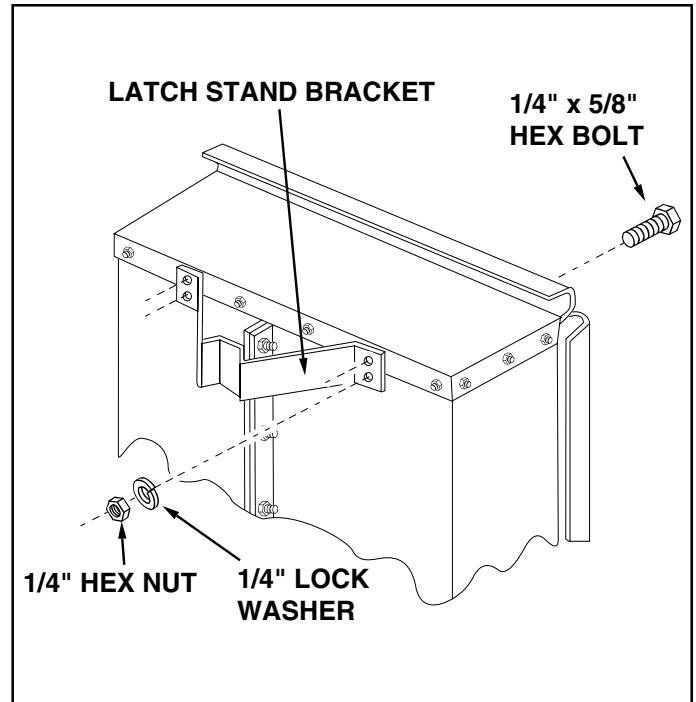

FIGURE 7
11. Assemble the latch stand bracket to the cart using four 1/4" x 5/8" hex bolts, 1/4" lock washers and 1/4" hex nuts. **TIGHTEN**. See figure 7.